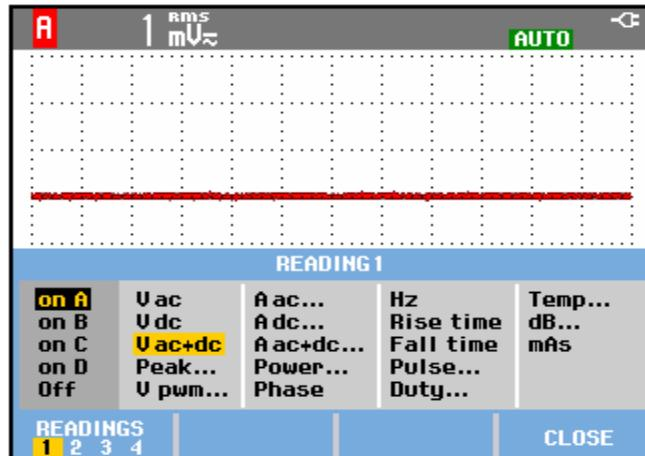

Figure 4-1. Menu item selection
- Open a menu, for example press  , then press  (**READING ...**). A menu as showed in Figure 4-1 will be opened.